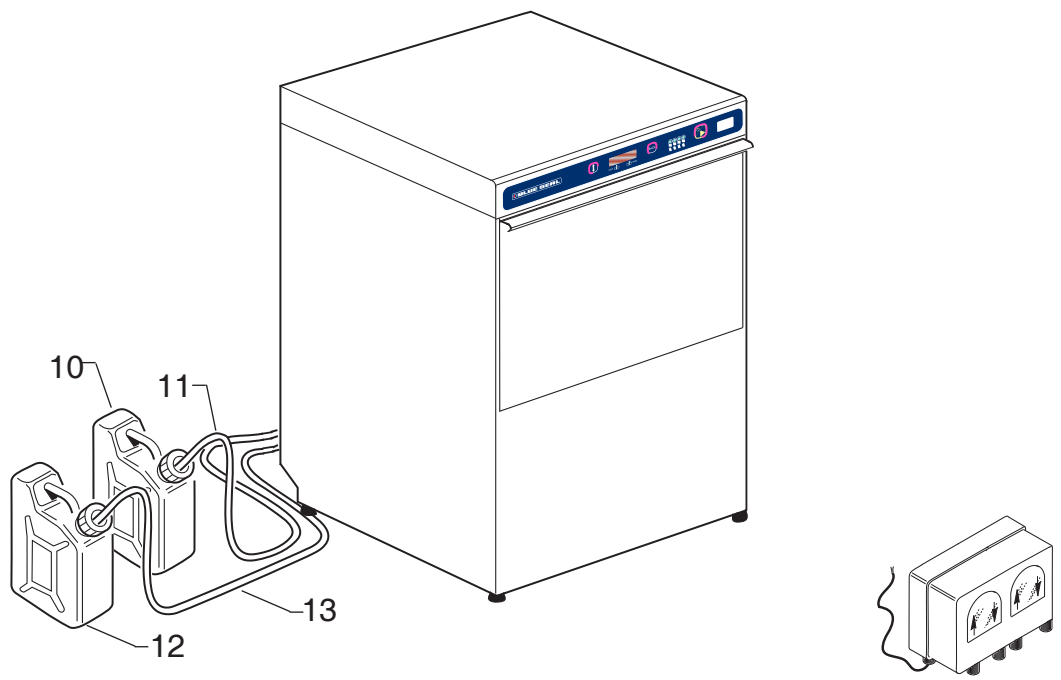

Fig. 8
3.3 RINSE AGENT LIQUID DOSAGE with a HYDRAULIC PUMP (Fig. 8)
3.4 DETERGENT LIQUID DOSAGE (Fig. 8) (only for machines with an incorporated dispenser)